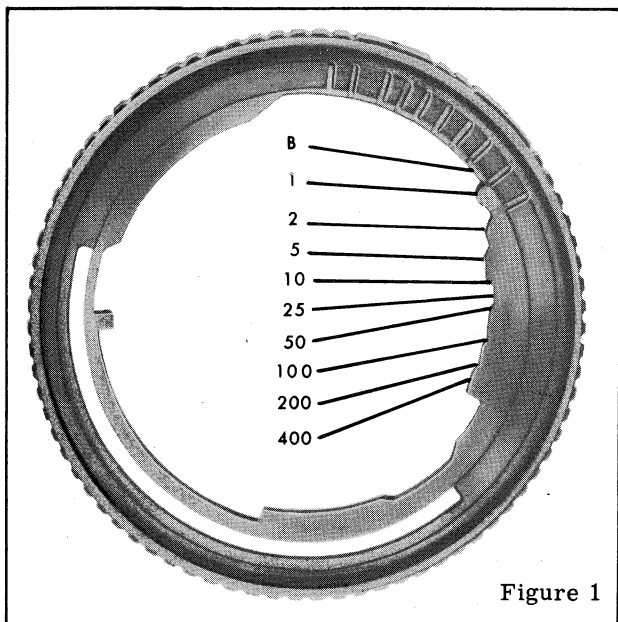
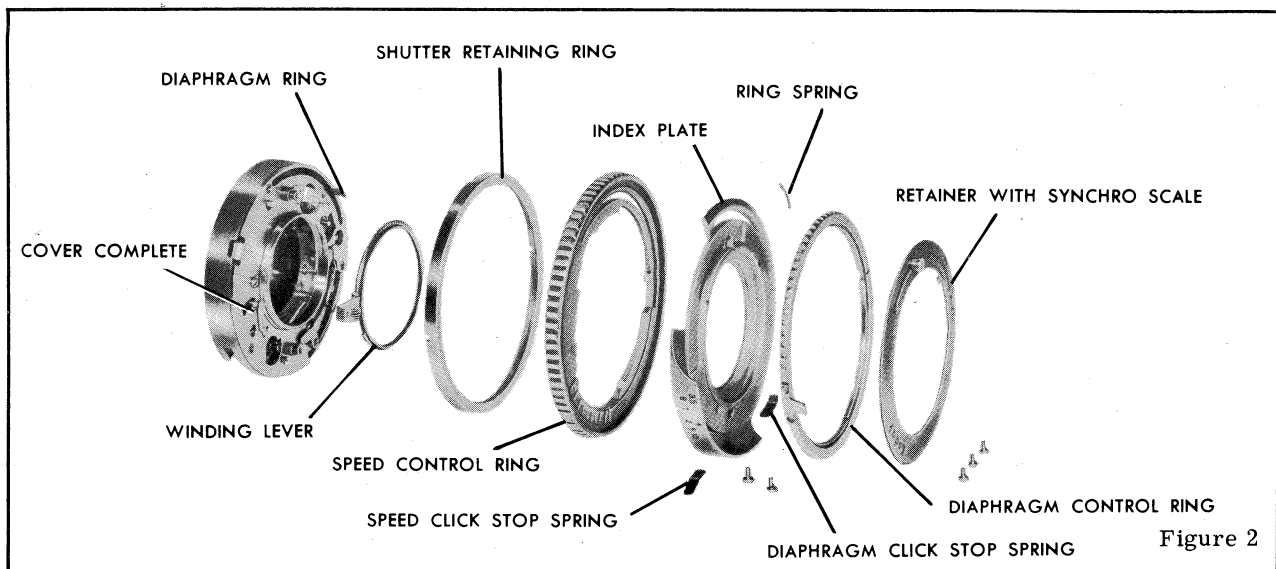

Figure 1
Figure 2
| Shutter speeds slow (cont'd) | <p>Shutter blades binding.</p> <p>Excessive retard sector travel.</p> <p>Blade controller with contact stud binding.</p> | <p>Remove and clean the shutter blades. If necessary, replace the blades.</p> <p>Swedge the SPEED CONTROL RING, figure 2, at the area controlling the slow speed. (See figure 1.)</p> <p>Re-form the diaphragm retainer plate to allow more clearance between the plate and the mechanism plate. Be sure the blade controller is flat.</p> |
| Shutter speeds fast | <p>Insufficient retard sector travel.</p> <p>Insufficient pallet engagement (on speeds 1/10 second or slower).</p> <p>Gear train dirty.</p> <p>Too much tension on the main drive spring.</p> | <p>File the speed ring at the area controlling the fast speed. (See figure 1.)</p> <p>1. Remove material on the speed control ring in the area of contact with the pallet bracket stud.</p> <p>2. Check for bind of the PALLET BRACKET, figure 6, against the retard gear PLATE COMPLETE.</p> <p>Clean the gear train thoroughly.</p> <p>Replace the main drive spring.</p> |
| Both flash settings are above the millisecond tolerances (slow) | <p>There is not enough tension on the winding gear spring.</p> <p>The winding lever may be binding around the central opening of the cover or on the SPEED INDEX PLATE, figure 2.</p> | <p>Place the winding gear spring under slightly greater tension. Care should be taken during this adjustment not to disturb the trigger latch.</p> <p>Try lubricant, or replace the WINDING LEVER, figure 2.</p> |
2. Diaphragm control ring RETAINER WITH SYNCHRO SCALE, figure 2.
1. Diaphragm control ring, fitting the notch opposite the pointer over the projecting lever on the DIAPHRAGM RING, figure 2.
2. DIAPHRAGM CLICKSTOP SPRING, figure 2.
3. WINDING LEVER, figure 2.
8. **SHUTTER RETAINING RING**, figure 2.